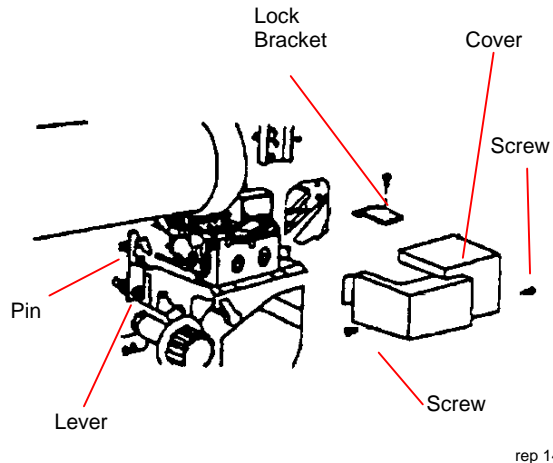

Figure 1. Preparing to remove the Developer Assembly
2. (Figure 1): Pull and hold the release pin of the Developer Set Lever while turning the lever to the left. Insert the pin in the hole to lock the assembly.